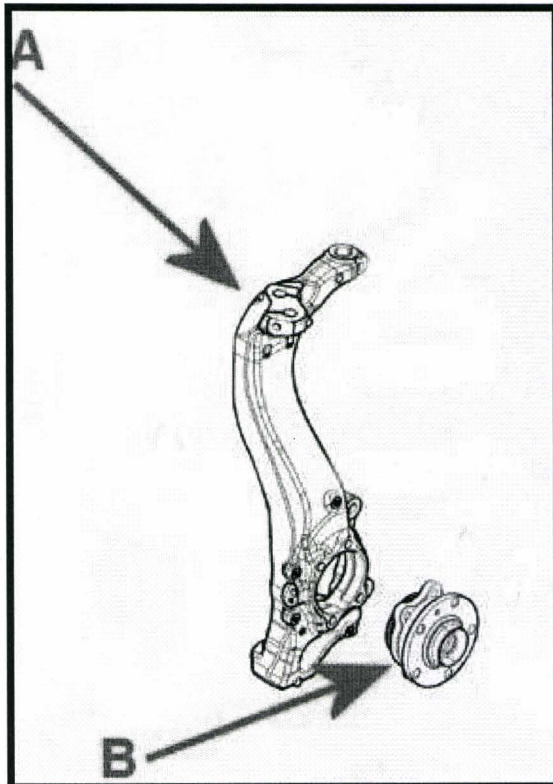

Figure 7
1. Remove and discard the original front left and right hand side wheel bearing housing (Figure 7 point A) and replace with 3W0 407 245A – left hand front and 3W0 407 246A – right hand front – Refer to workshop manual Rep.Gr 40 Front suspension, Drive shafts
- Fit new front hub bearing assemblies and fixings (Figure 7 point B) - Refer to workshop manual Rep.Gr 40